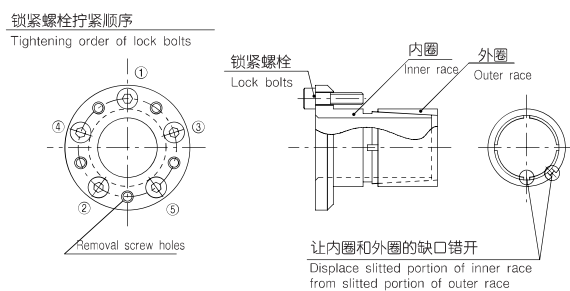

图5 /Fig. 5
3. 按涨紧套的外圈插入滚轮后, 按照在轴上安装滚轮、涨紧套内圈的顺序进行装配。这时, 请注意让涨紧套内圈和外圈的缺口错开 (图5)。
Insert the outer race of the clamping tool into the roller pinion, and then fit the roller pinion and the inner race of the clamping tool on the shaft in this order. At this time, shift the allocated positions of the inner race and outer race of the clamping tool (Fig. 5) .
6. 调整后, 将锁紧螺栓按照对角线顺序 (图5、7) 以规定拧紧扭矩的约1/4均等地拧紧, 逐渐增加拧紧扭矩来拧紧螺栓。
After the adjustment, fasten the lock bolts diagonally(Figs.5 and 7) and uniformly starting at 25% or so of recommended tightening torque with gradual increase.